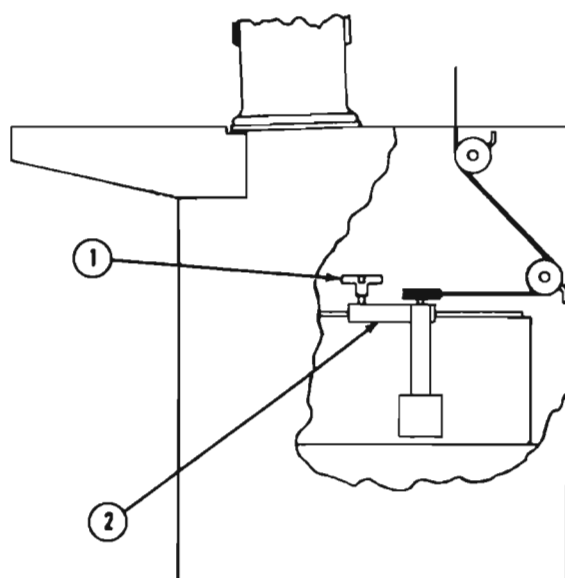

Fig. 103
Use one or both oil jets to pump oil from Reservoir into a separate container. When oil level has been lowered to pump intake, oil will stop pumping. Turn motor off. Disconnect oil line near upper left corner of door opening, loosen Clamp Knob (1, Fig. 103), and remove belt from pump pulley. Store belt so it doesn't fall into the Reservoir or otherwise get oil on it.
ADJUST: If belt needs adjusting, loosen Clamp Knob (1, Fig. 103) in top of Pump Bracket (2) and move Bracket as needed. Retighten Knob.